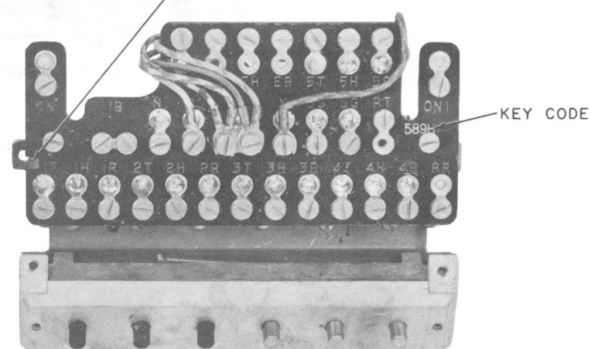

Fig. 9—589-Type Key, Top
- 2.15 The 589-type keys (Fig. 9 and 10) were used in early production sets. This type key